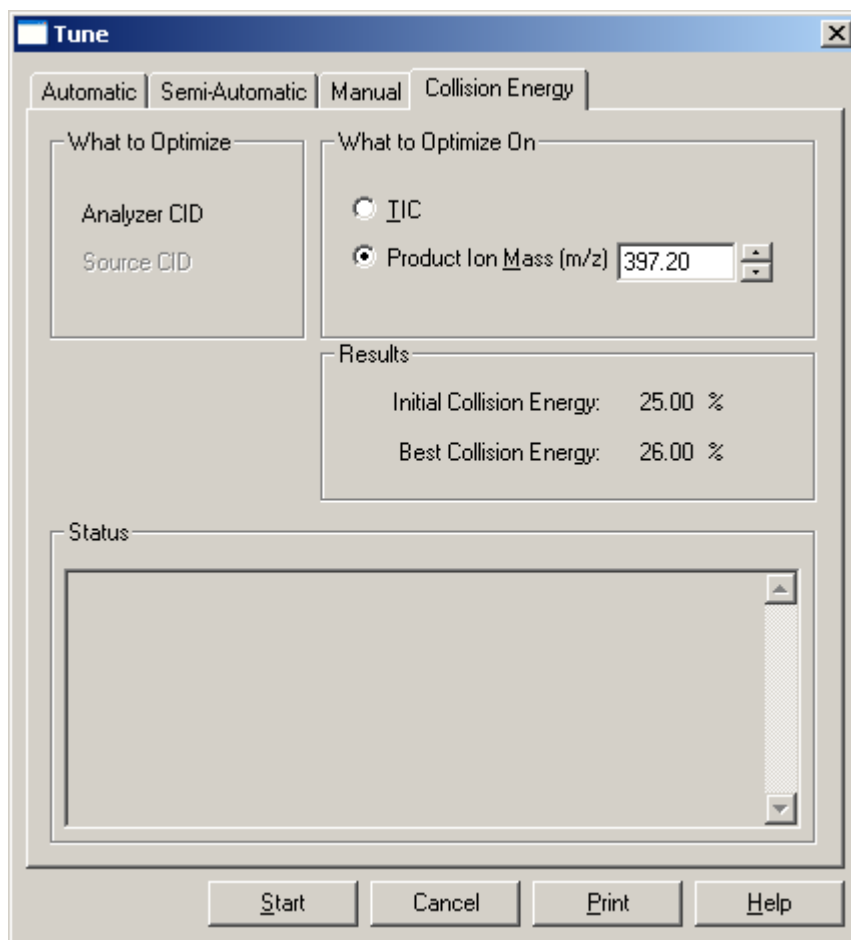

Figure 5-4. Tune dialog box, showing the Collision Energy page
11. In the Tune dialog box, click on the Collision Energy tab to display the page. See Figure 5-4.
1. In the Tune dialog box, on the Collision Energy page (Figure 5-4), click on **Start** to start the optimization procedure. A message box displays the following message: